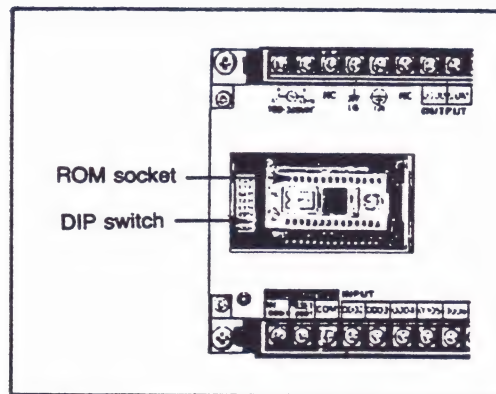

Figure 1.4 ROM Socket and Dip Switch
- (i) ROM Socket and DIP Switch - Each of the C-Series K-Family controllers is provided with a built-in RAM (backed up by a Lithium battery), as well as a ROM chip socket. The memory capacity is 1194 addresses for each. To install an EPROM chip refer to Figure 1.4 and follow the steps below.